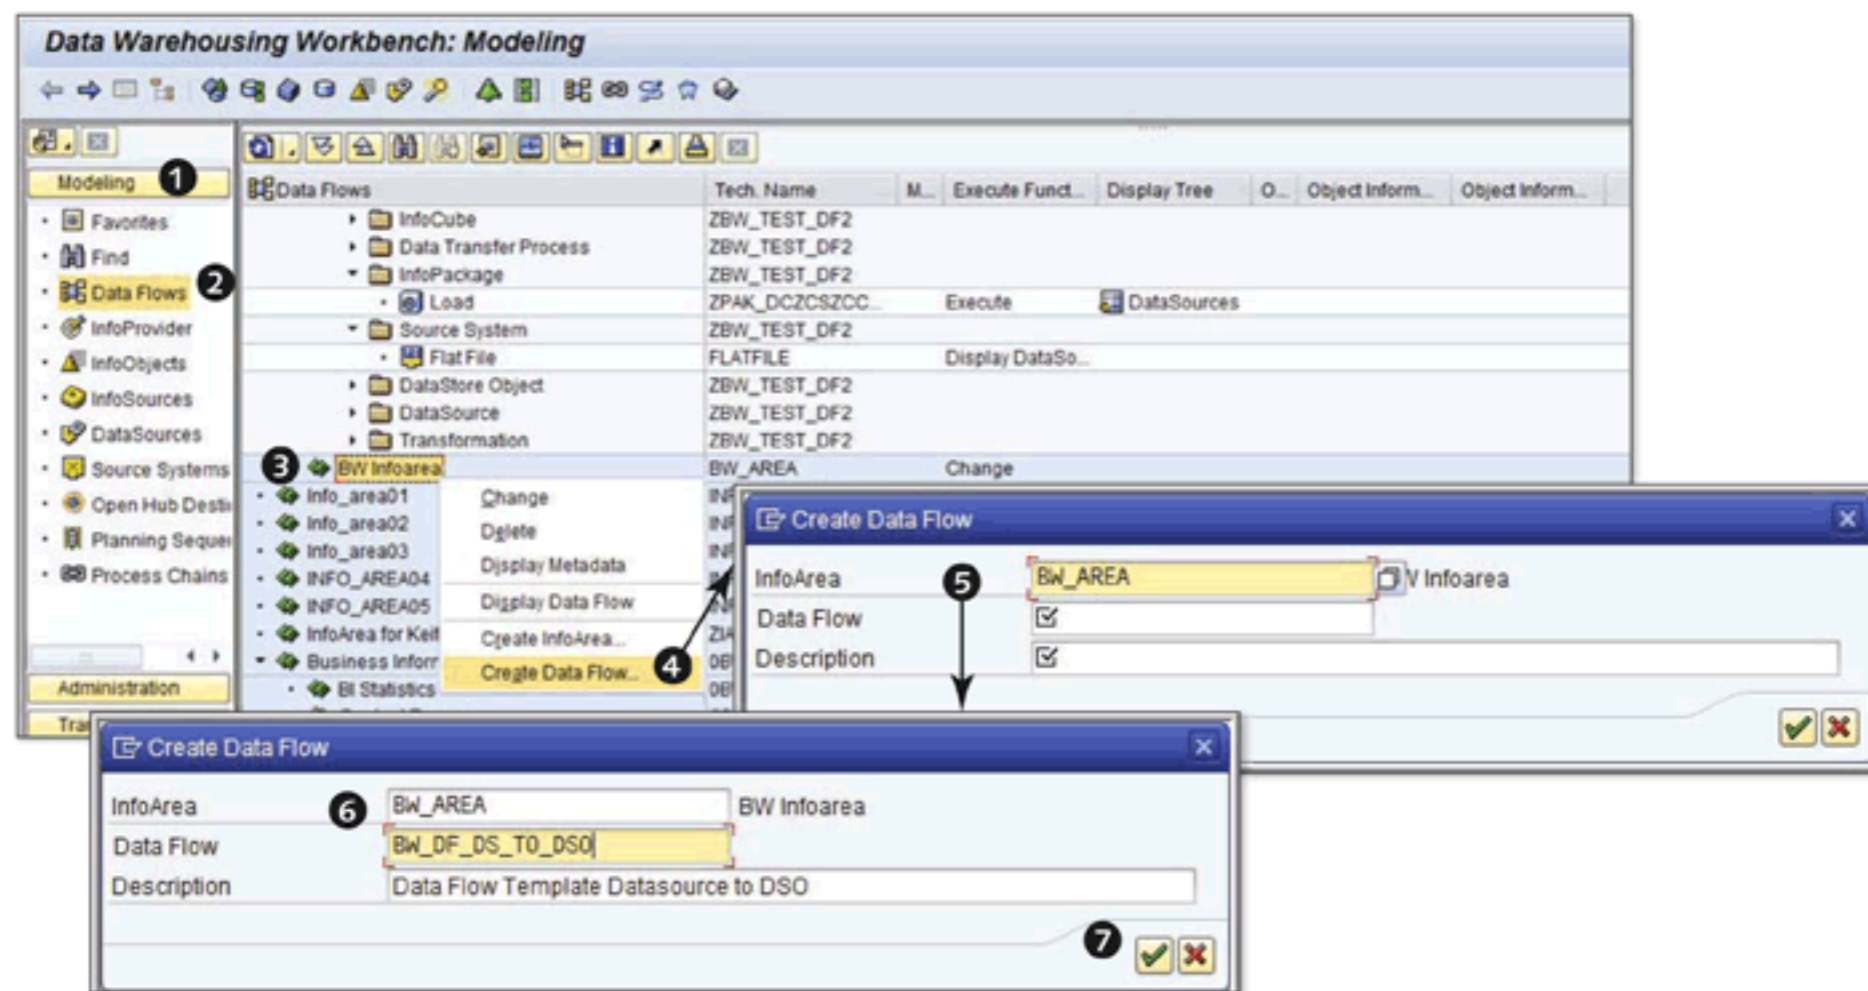
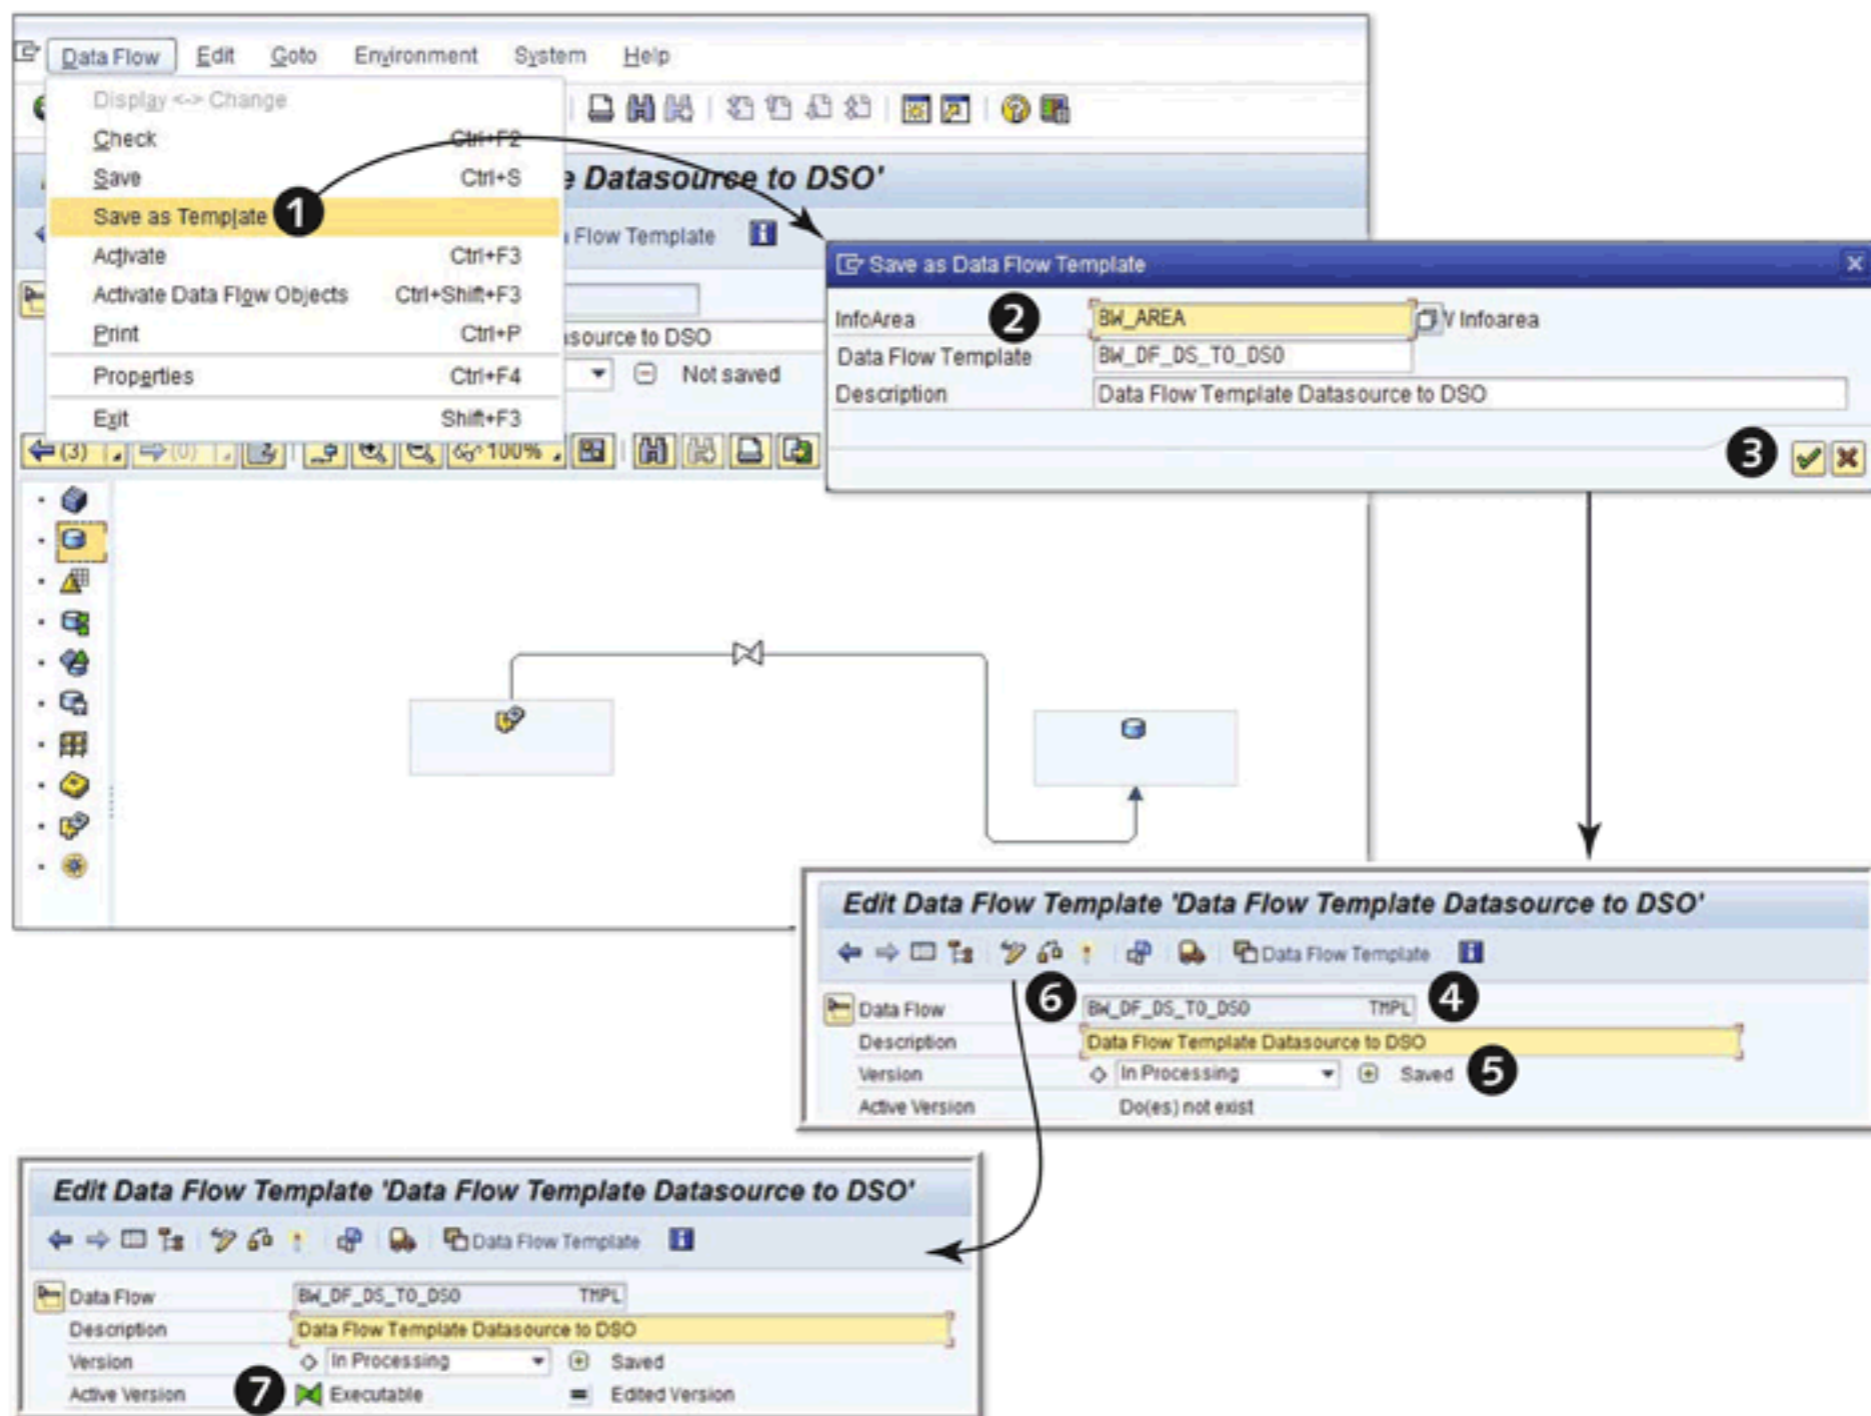

Figure 7.89 Create Data Flow
Figure 7.93 Save as Template
To start creating a DFT, open the DWW using Transaction RSA1. From MODELING (❶ of Figure 7.89), select DATA FLOWS (❷ of Figure 7.89). This opens up the DATA FLOWS panel on the right side of the screen. All the available data flows and data flow templates are displayed here. DFTs are created under InfoAreas, so select the InfoArea BW_AREA, as shown in ❸ of Figure 7.89. From the context menu, select CREATE DATA FLOW, as shown in ❹ of Figure 7.89. This brings up the pop-up box CREATE DATA FLOW, as shown in ❺ of Figure 7.89.
Enter the DATA FLOW technical name and description, as shown in ❻ of Figure 7.89. Click on OK, as shown in ❼ of Figure 7.89.
To do this, select DATA FLOW • SAVE AS TEMPLATE, as shown in ❶ of Figure 7.93. This brings up the SAVE AS DATA FLOW TEMPLATE box (❷ of Figure 7.93); recall
from Figure 7.89 that the system has already supplied the entries. Click on OK (3 of Figure 7.93), which saves this data flow as a template (4 of Figure 7.93). The version is now changed to SAVED from NOT SAVED (5 of Figure 7.93).
In order to be used again, the template now needs to be activated. Click on the ACTIVATE icon (6 of Figure 7.93). After successful activation of the template, the ACTIVE version is changed to EXECUTABLE (7 of Figure 7.93). This data flow template BW_DF_DS_TO_DSO is now ready to use for designing another data flow.